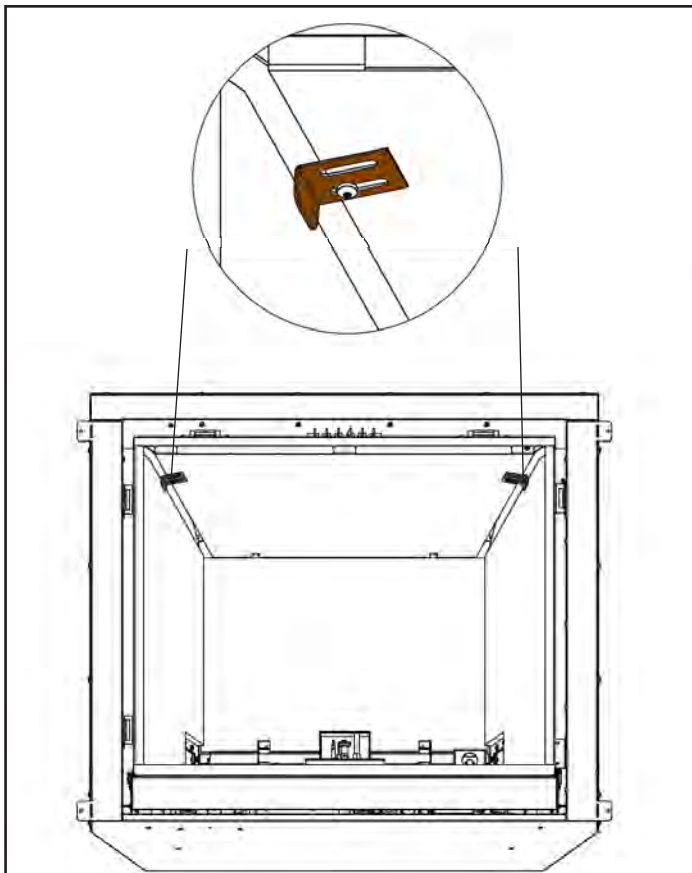

Figure 40. Liner panel retainers
Step 3: Screw the (2) retainer brackets into the existing exhaust baffle with the supplied #8 T-20 bolts. Before tightening press the retainer onto the panel firmly. Tighten them once the panels seem to be in the correct position. (See Figure 40)